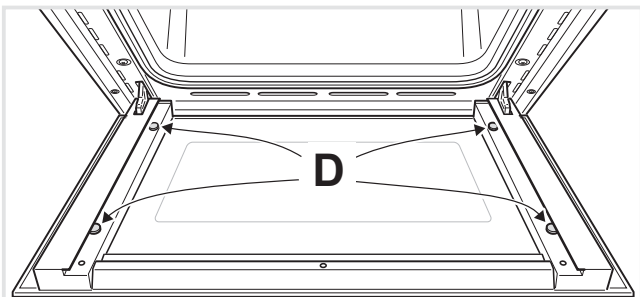

Figure 37
- Check that the four rubber pads are in place (“D” in fig. 37).